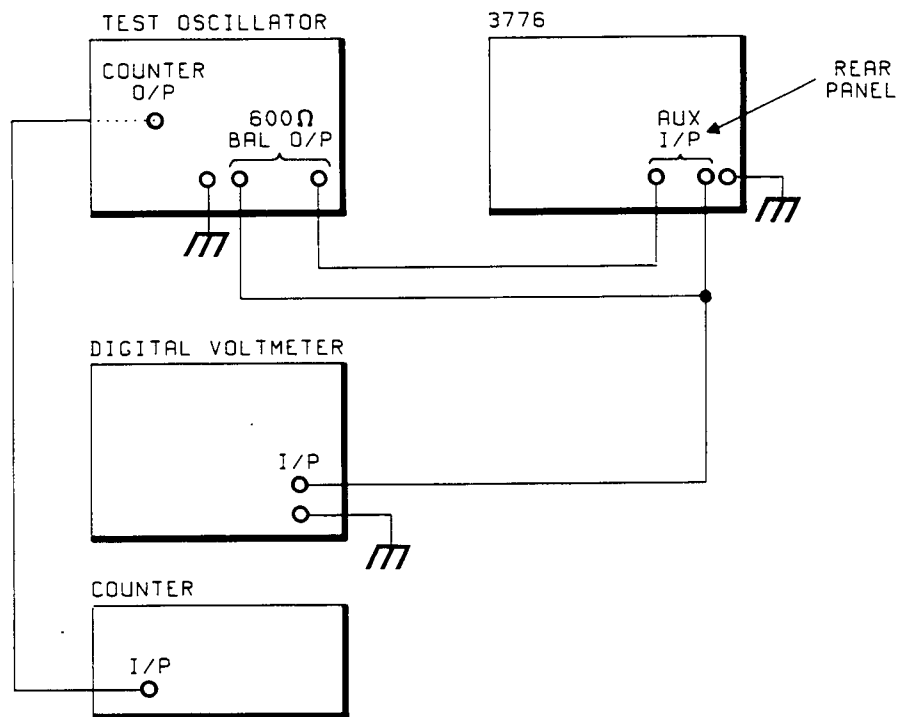

Figure 5-1 Codec Test Setup
3. Connect the test equipment as shown in Figure 5-1.